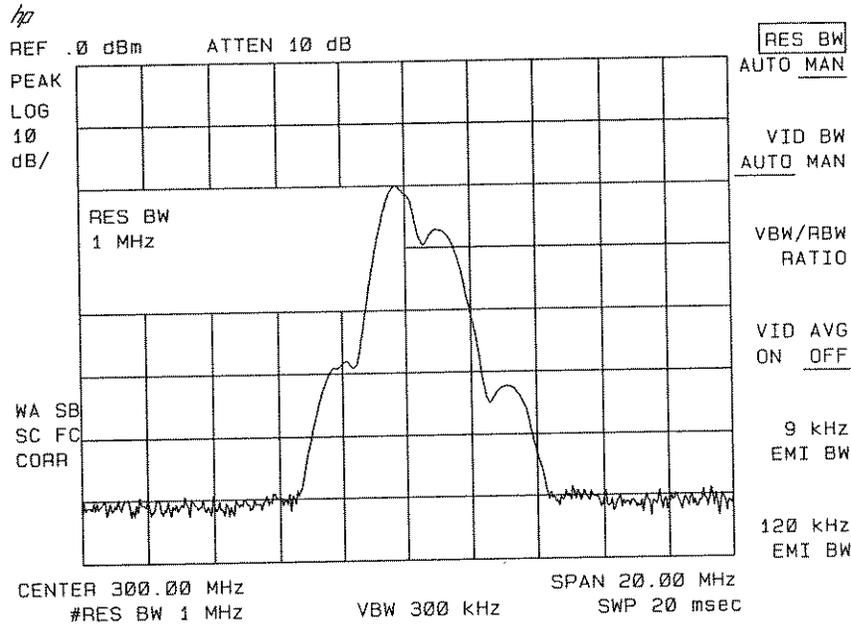

Figure 6-26. Viewing an AM Signal
2. First, center and zoom in on the signal in the frequency domain. (See “Decreasing the Frequency Span Using the Signal Track Function.”) Be sure to turn off the signal track function, since the signal track function must be off for zero span. See Figure 6-26.